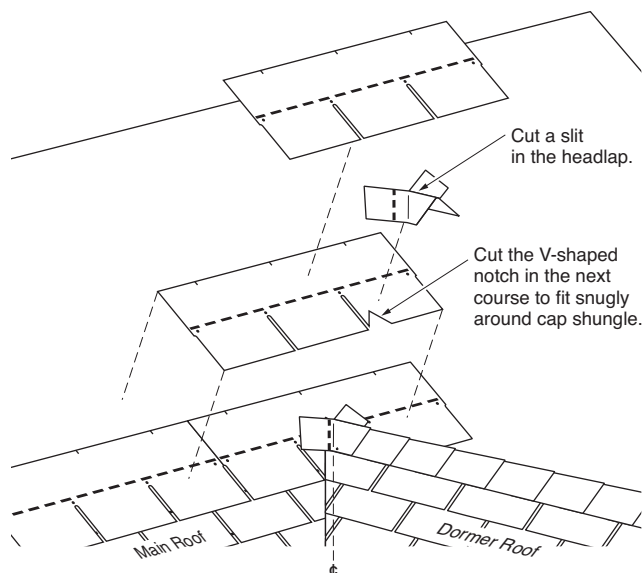

Figure 9-10: "Exploded" view of the entire assembly where the dormer ridge meets the main roof.
9. The slit in the ridge cap must be covered completely by the shingle over it in the next course. If cutouts or butt joints are closer than 4" to the slit, a scrap piece of shingle at least 8" wide by 12" high should be installed over the cut before the full shingle is applied (*Figure 9-10*).